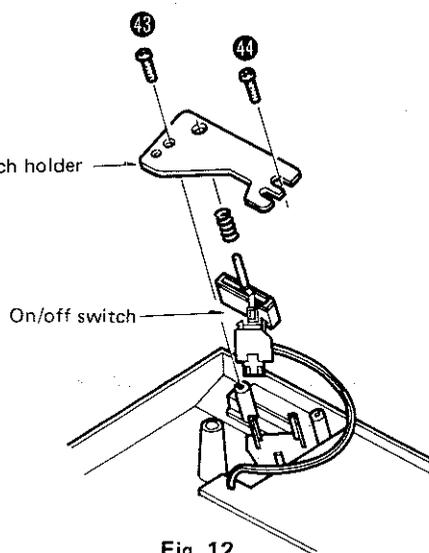

Fig. 12
3. Remove the P.C.B. in the direction of the arrow (B) (Fig. 12)
2. Remove the 2 switch holder setscrews (Fig. 12 : 43, 44), Then the on/off switch can be removed.